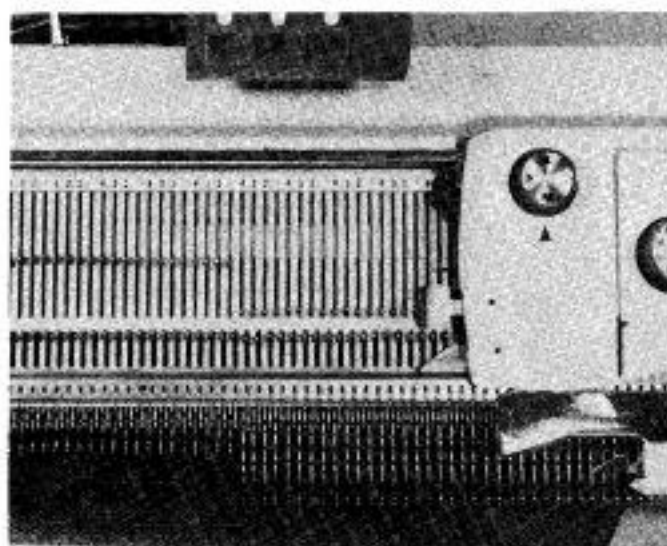

Fig. 104
- 2) Push forward into Position (E) all the needles which have already knit the stitches of this row. The wool should run over needle stems from last inside needle in Position (E) to the carriage feeder. (Fig. 104)